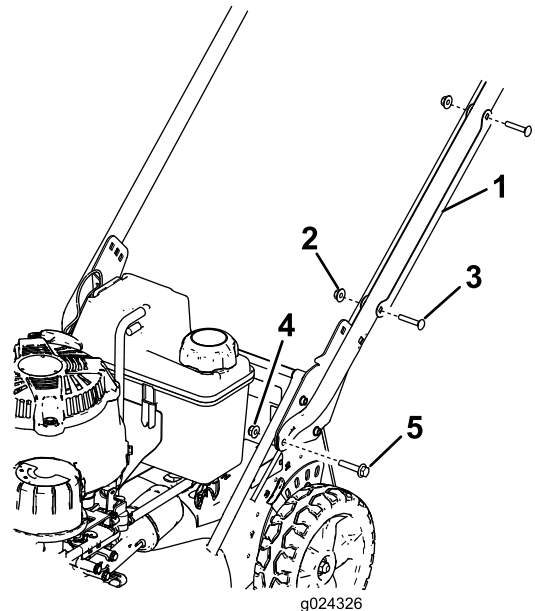

Figure 3
1. Remove the cable guard from the handle (Figure 3) by removing the 2 carriage bolts and 2 locknuts that hold the cable guard to the handle.
2. Install the handle ends onto the mower housing with 2 hex-head-flange bolts (5/16 x 1-1/2 inches) and 2 flange nuts (5/16 inch) as shown in Figure 3.
handle with the 2 carriage bolts and the 2 locknuts that you previously removed (Figure 3).